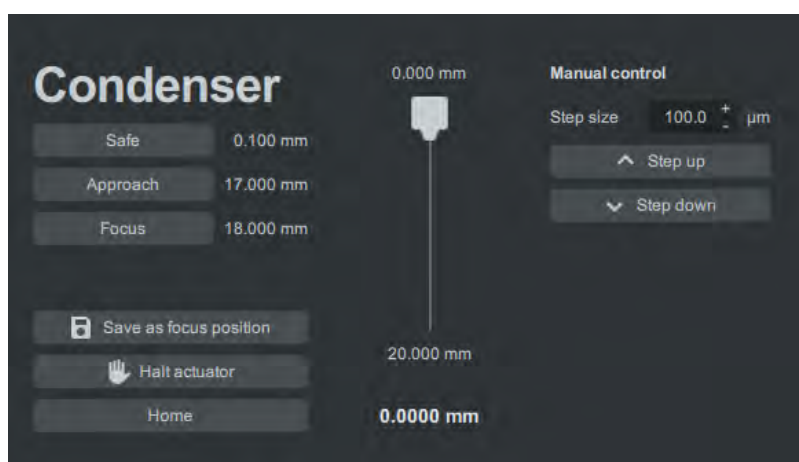

Figure 11.7.1: Condenser control window.
2. Click the **Approach** button to lower the condenser to a safe position (see Figure 11.7.1).